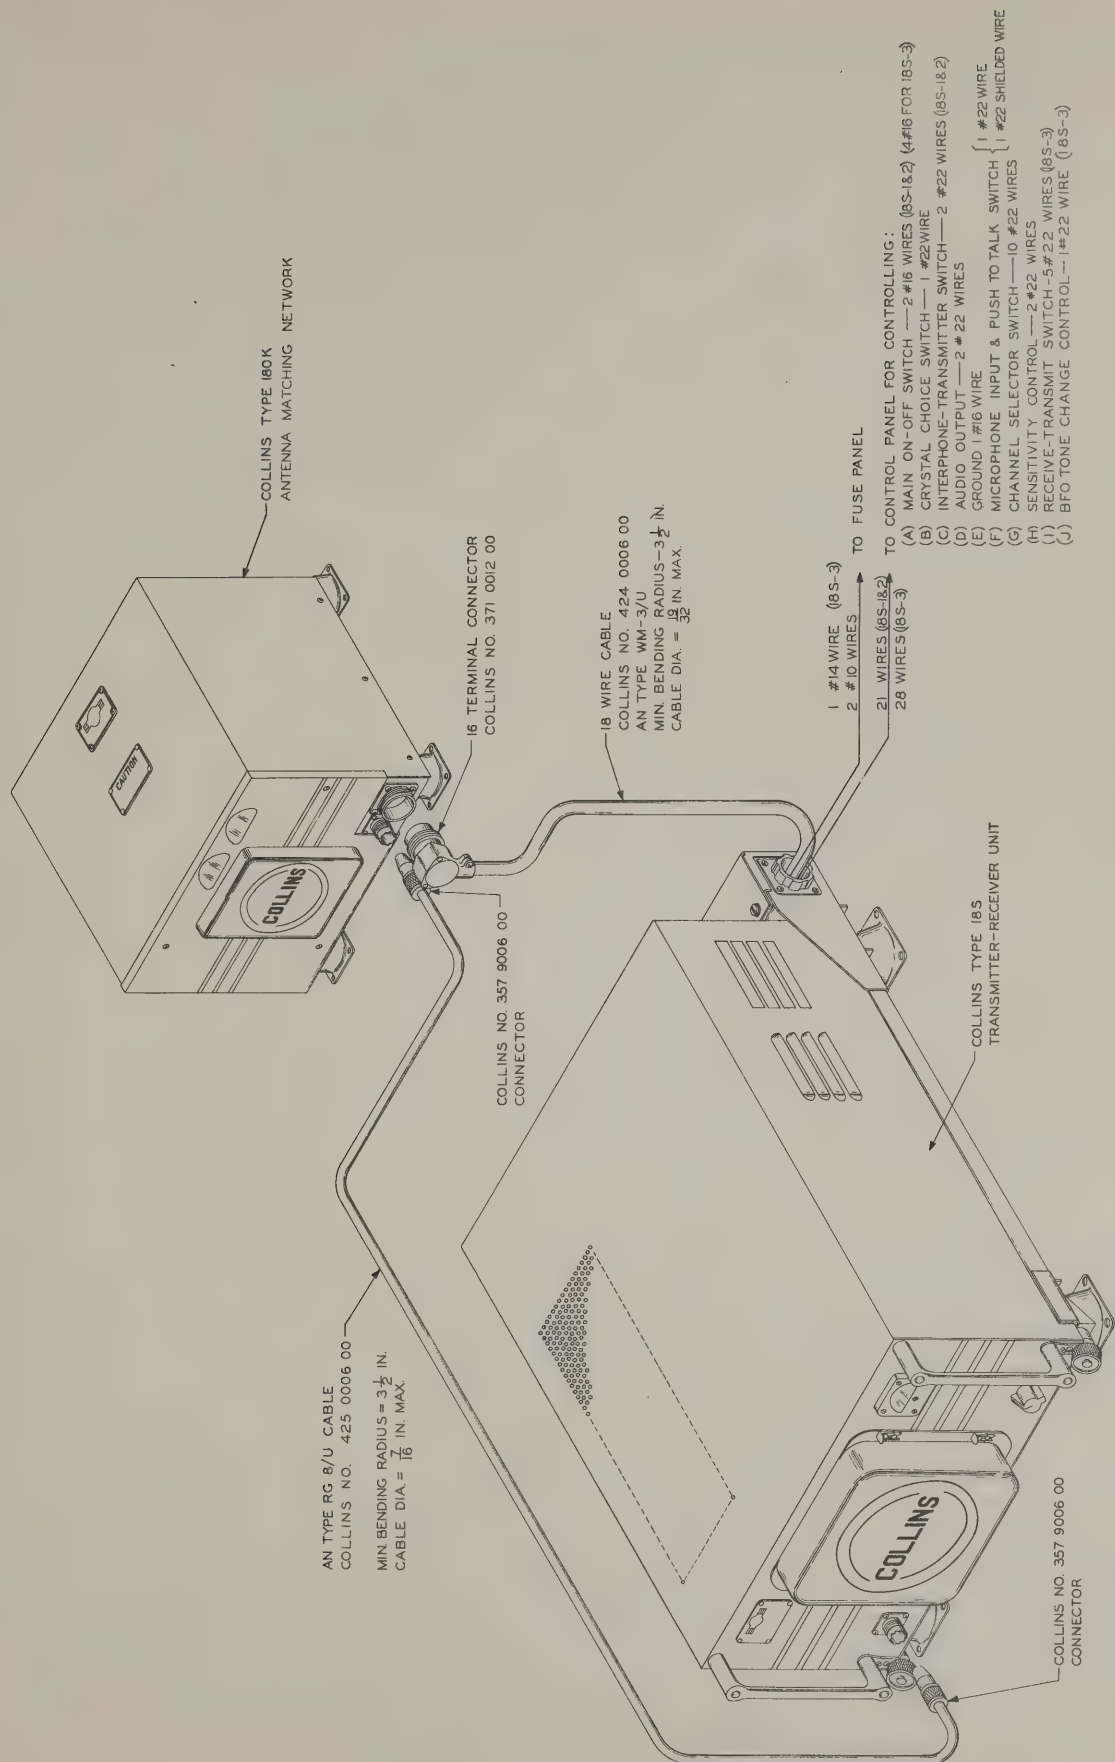

Figure 3-1 Cabling Diagram
a. Make interconnections between power source, transmitter-receiver unit, and control panel and connect the control cable to the antenna matching network. (Do not connect the coaxial line to the network.) See figures 3-1 and 3-2.
(b) POWER CONNECTIONS. Refer to figure 3-1. - Two number 10 AWG wires will be sufficient for primary power connections. These wires should be as short and direct as possible. Good connections are important.